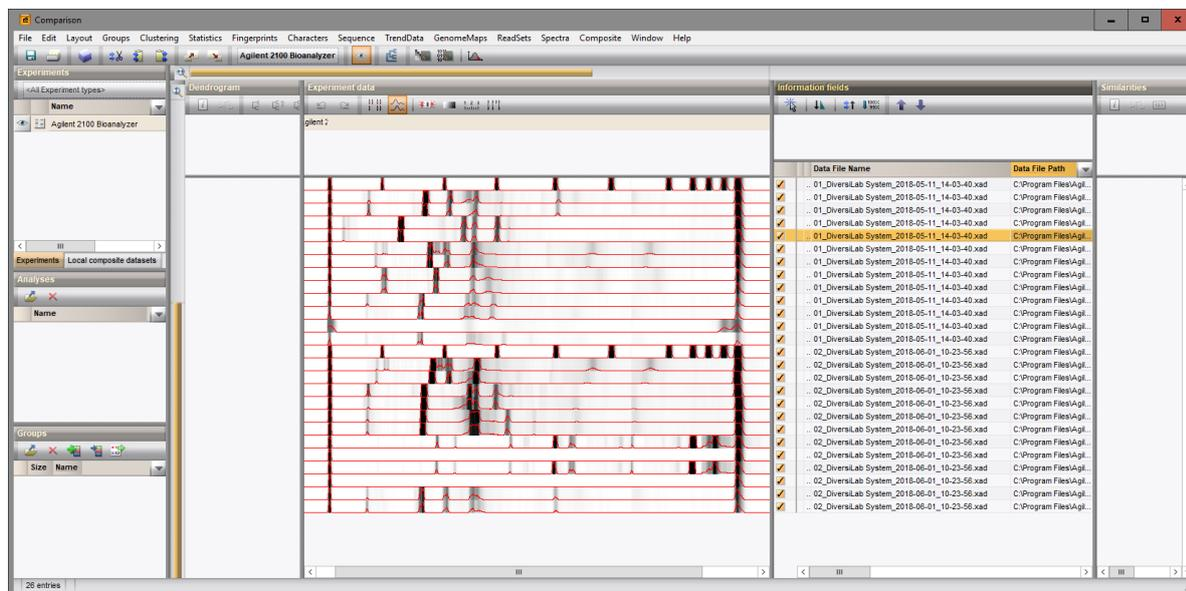

Figure 21: Show densitometric curves.
3. Click on the (left arrow) next to the experiment name **Agilent 2100 Bioanalyzer** in the *Experiments* panel to display the patterns in the *Experiment data* panel (see Figure 21).
4. Select **Fingerprints > Show densitometric curves** (mountain icon) to display the densitometric curves (see Figure 21).